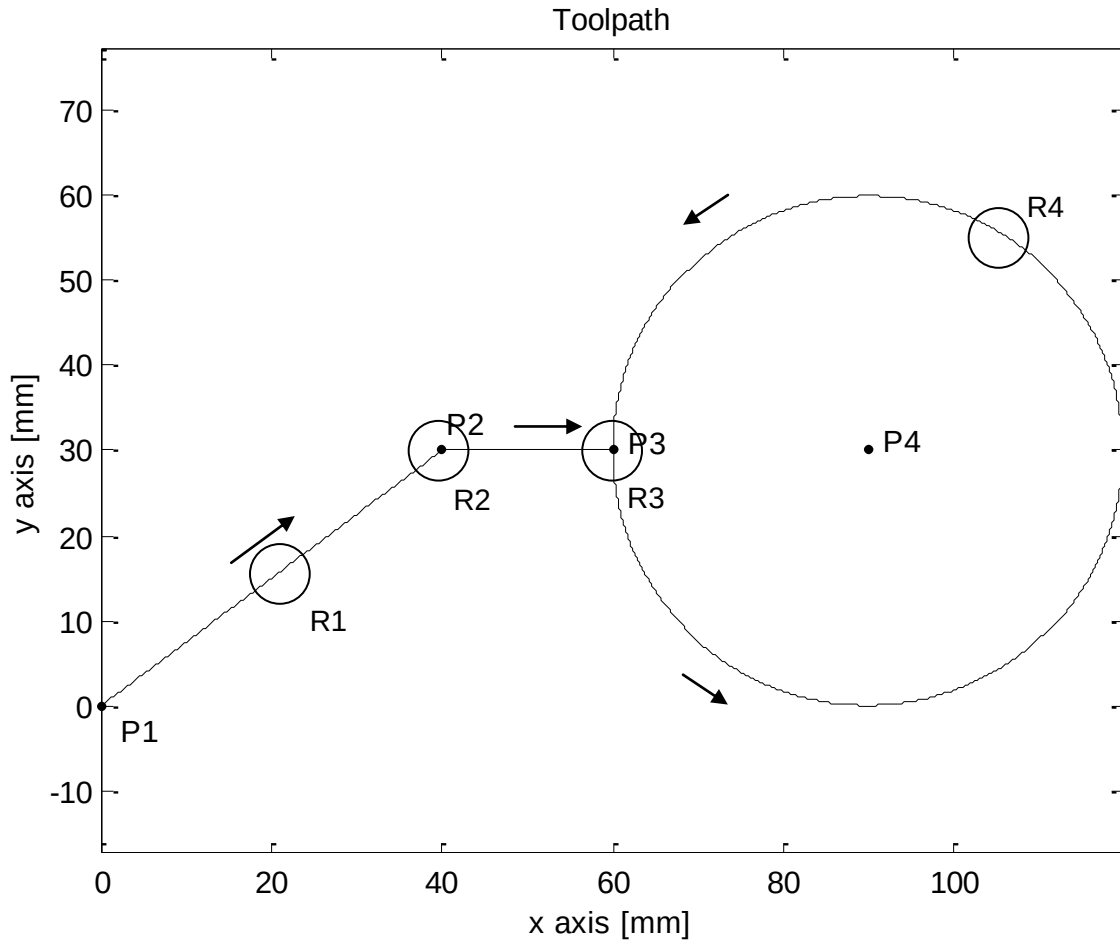

Figure 1: Reference Toolpath to be used in Contouring Performance Evaluation.
A sample toolpath is shown in Figure 1, comprising of two linear segments and a full circle. The coordinates of the segment end points are $P1(0,0)$ [mm], $P2(40,30)$ [mm], and $P3(60,30)$ [mm]. The center of the circle is $P4(90,30)$ [mm].
C.2. Comment on the tracking performance throughout the motion, and also on the (geometric) contouring accuracy at the critical regions R1, R2, R3, and R4 shown with circles in Figure 1. Zoom into these regions and approximately measure the largest value of the predicted contour error. What is the contour error value in region R1 during constant feedrate motion? What are the corresponding axis tracking errors in this region? Elaborate on your observations.